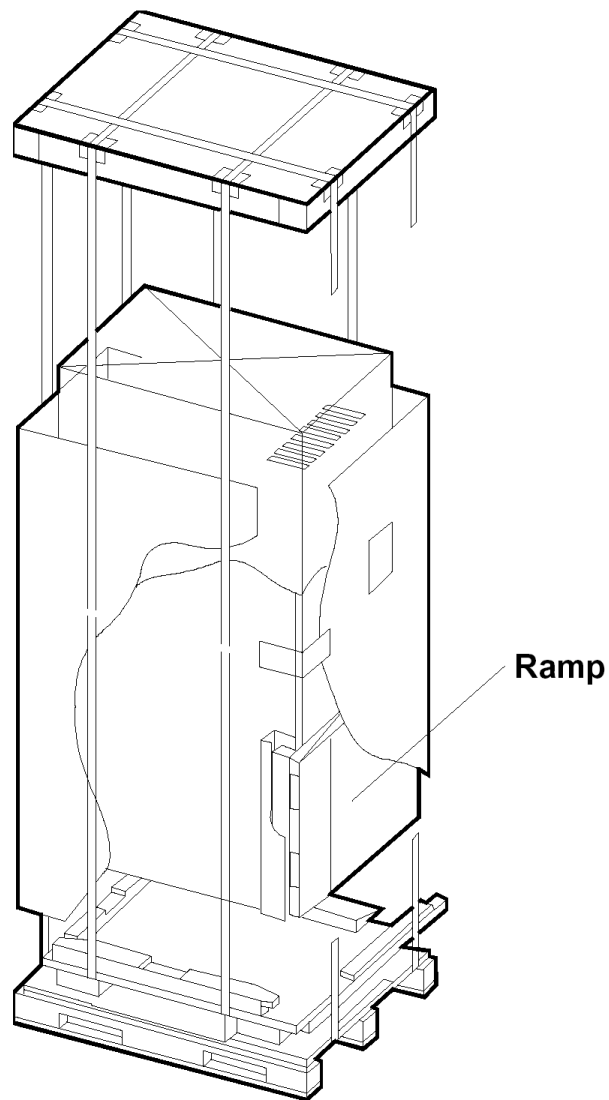

Figure 4-1. Lifting the Packing Lid Off
1. Cut the poly strap bands around the shipping container. See Figure 4-1.